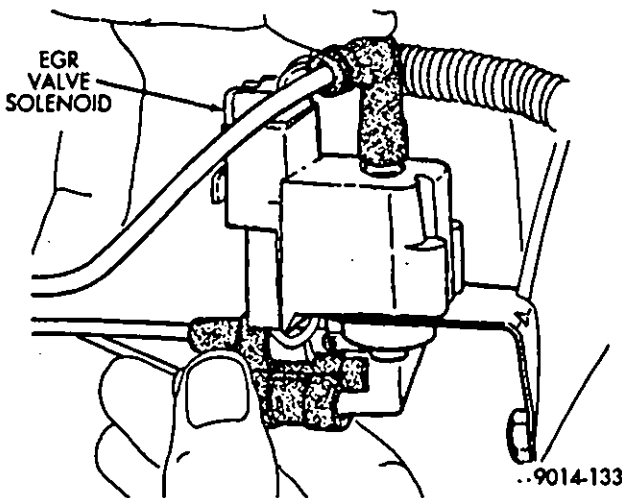

Fig. 10—EGR Valve Solenoid Removal/Installation
The Exhaust Gas Recirculation (EGR) Solenoid is located on the drivers side on the fender panel of the engine compartment (Fig. 10).
- (1) Disconnect vacuum lines at solenoid (Fig. 10).
- (2) Remove solenoid mounting screw.
- (3) Remove solenoid.
- (1) Install solenoid and tighten mounting screw (Fig. 10).